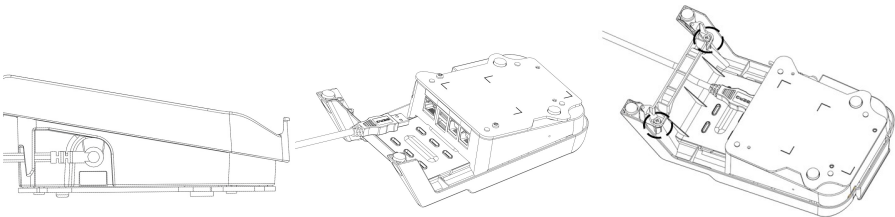

Figure 4 Figure 5 Figure 6
1. Plug in the DC Jack as Figure 4.